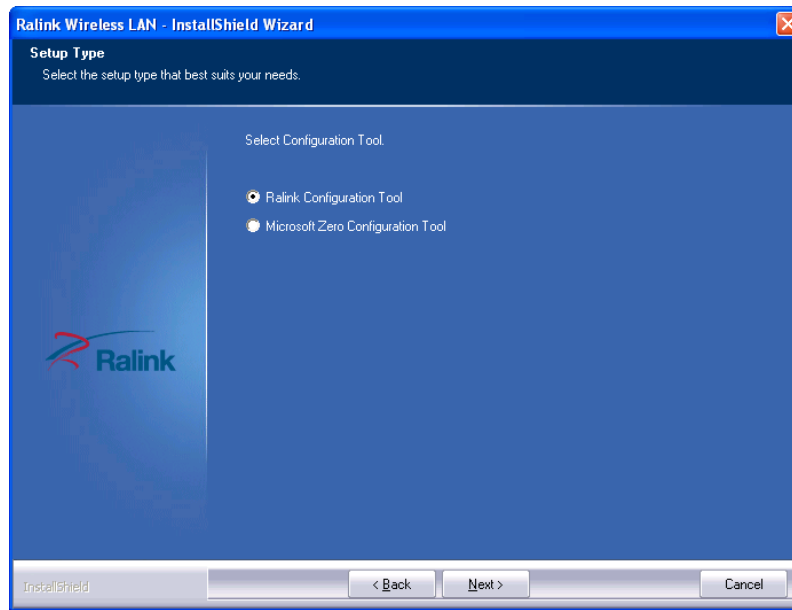

Figure 6-26: Configuration Tool
Step 7: The **Configuration Tool** screen in **Figure 6-26** appears.